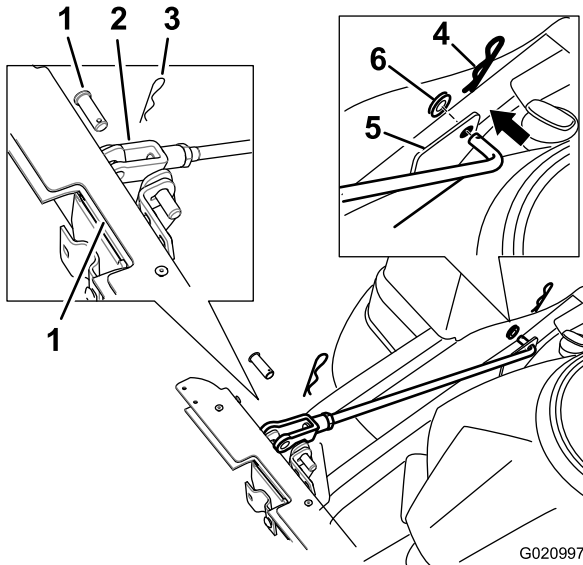

Figure 7
- D. Secure the clevis end of the rods to the bagger frame using a clevis pin and hairpin cotter pin (Figure 7).
7. Install two support rods, one to each side of the bagger frame. Locate the existing bracket between the rear drive wheel and frame (Figure 7).
8. Insert the bent ends of the rod into the bagger frame as shown in Figure 7. Secure the end of the rod with a washer and hairpin cotter pin.